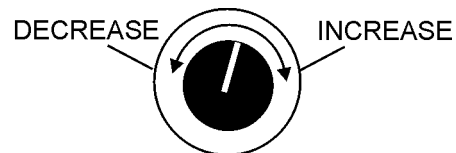

Figure 50. Voltage Adjust Control Knob
9. If the voltage is not within the specified tolerance, use the voltage adjustment control knob (Figure 50) to increase or decrease the desired voltage.